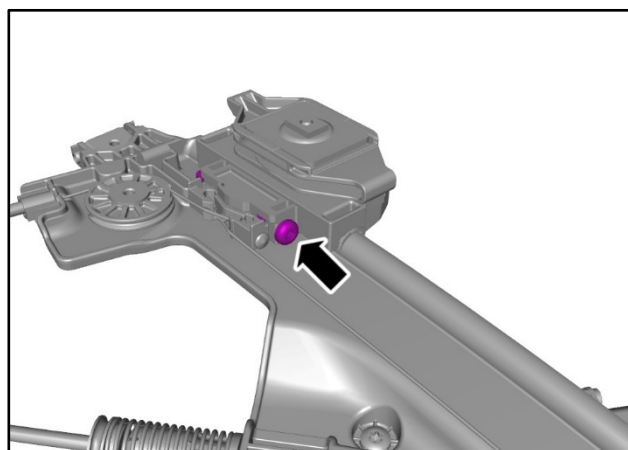

Figure 17
27. Fully tighten the vertical adjustment screw for the front regulator cursor (refer to Figure 17).